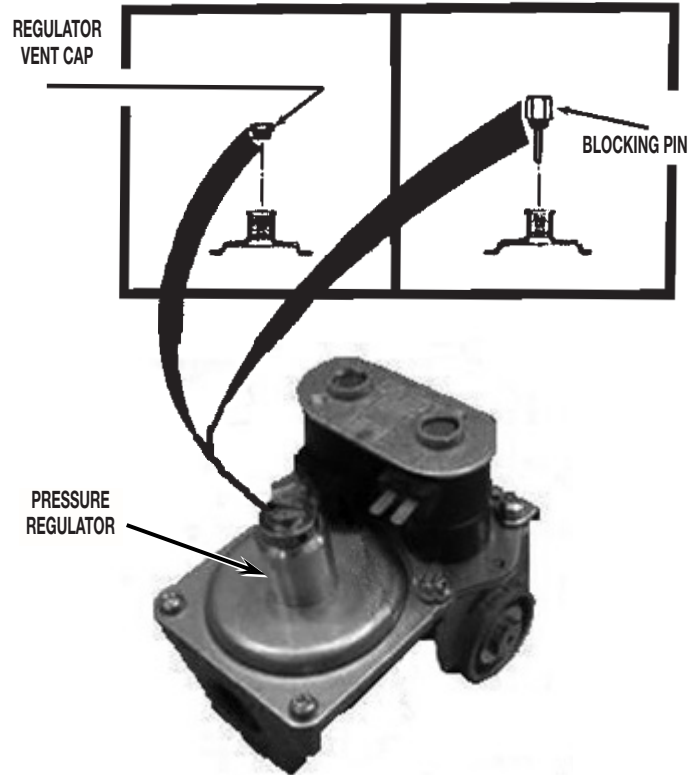

FIGURE 5
6. Remove the regulator vent cap (leak limiting device) from the pressure regulator. See *Figure 5*. Continue to Step 10.